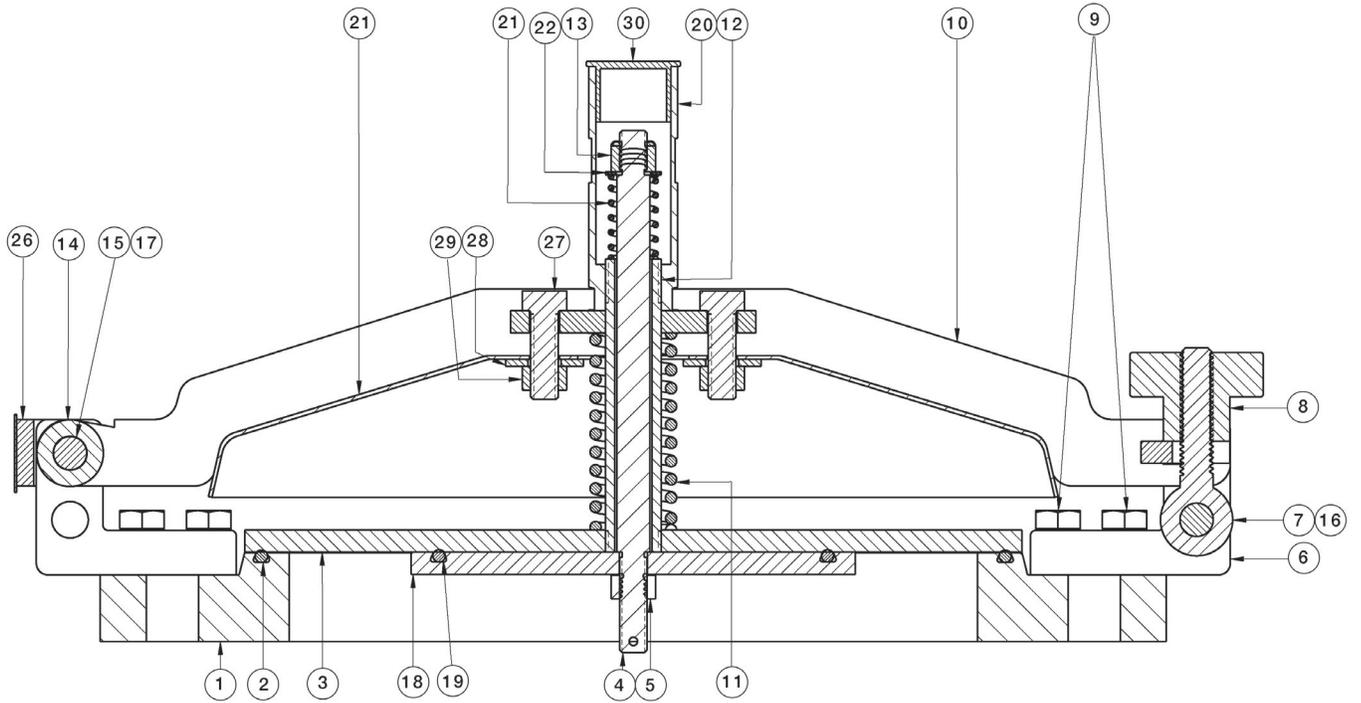

Figure 3: Pressure - Vacuum Model
Annually replace the pressure o-ring (2), vacuum o-ring (19) and vacuum spring (21). Refer to figure 3.
1. Remove knob (8) by rotating CCW.
2. Grab the arm sub assembly (10) with hand. Lift arm/vacuum pallet (10,18) sub-assembly up and turn over so the vacuum pallet (18) (or pressure pallet (3) on pressure or gauge hatch only units) is upwards.
3. Remove pressure o-ring (2) from groove in flange base (1). Examine groove in base (1), clear debris and any imperfections that could cause damage to new o-ring.
4. Replace with new pressure o-ring (2). **NOTE:** *Lightly condition the new o-ring before replacing. Prevent excessive grease build up.*
5. Flip arm/pallet (10,3) sub-assembly over and re-align on to the flange base (1).
6. Engage eye bolt (16) in the groove in hinge arm (10) and secure in place with knob (8).